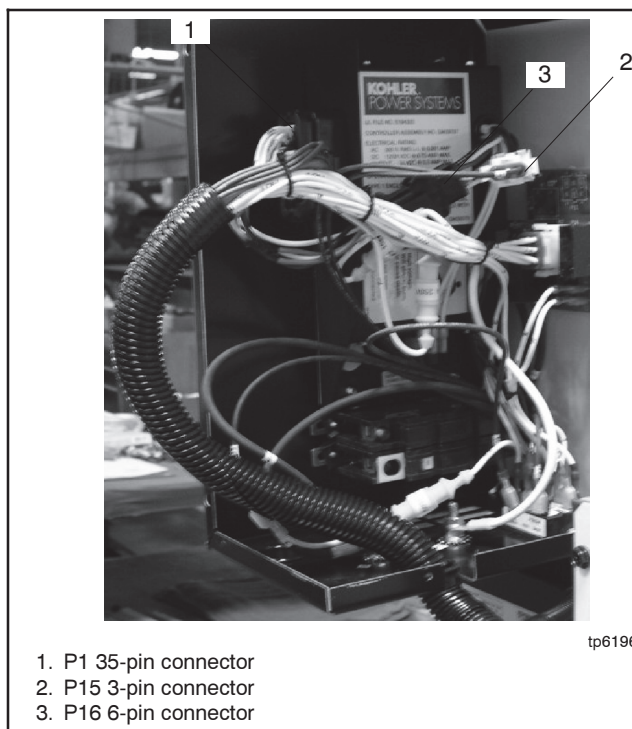

Figure 4-19 Controller Connections
- c. Disconnect wiring harness plugs P1, P15, and P16 from the ADC controller. See Figure 4-19.
- c. Disconnect plugs P1, P15, and P16 from the ADC controller. See Figure 4-19.